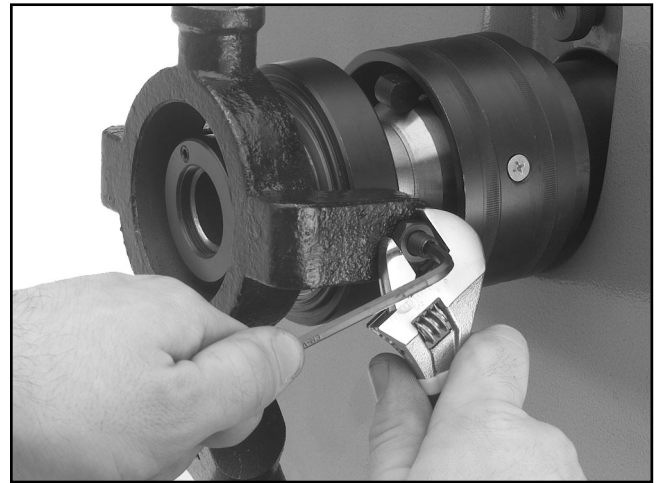

Figure 10. Tightening yoke setscrews.
5. Position the locking yoke back inline with the setscrew holes on the draw tube assembly, then secure the setscrews and the jam nuts as shown in **Figure 10**.